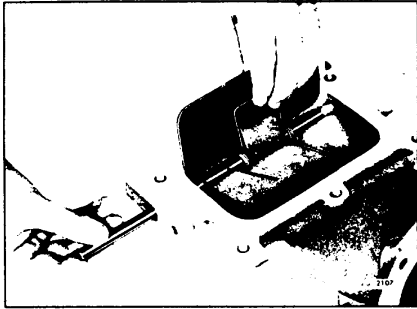

Fig. 1. - Installing Air Shut-Off Valve Spring and Valve
Refer to Fig. 1. and disassemble the air shut-down housing as follows:
The holes for the cam pin handle and the retaining pins must be drilled, using a 1/8" diameter drill, at the time a new service shaft or air shut-off valve(s) is assembled. The valve(s) must be in the same plane within .03" when in the stop position (flush with the housing face). Refer to Fig. 1. and proceed as follows:
1. Place the valve(s) and spring in position in the housing (Fig.1.) and slip the shaft in place. The shaft must extend .70" from the side of the housing where the shut-down latch is assembled.